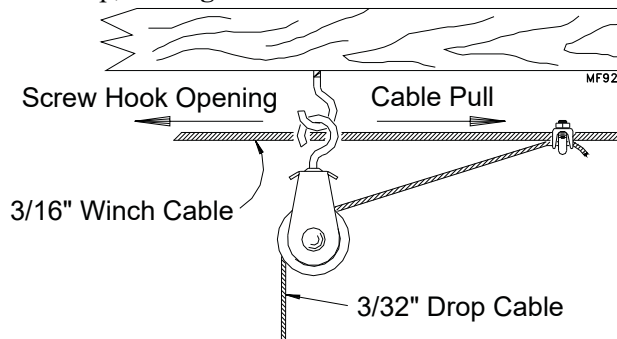

Figure 17. Drop Installation
2. Thread the end of the 3/32" [2.3 mm] or 1/8" [3.2 mm] cable through the pulley toward the winch. Clamp this end to the 3/16" [5 mm] winch cable about 6" [150 mm] from the last pulley using a 3/16" cable clamp, see Figure 17.